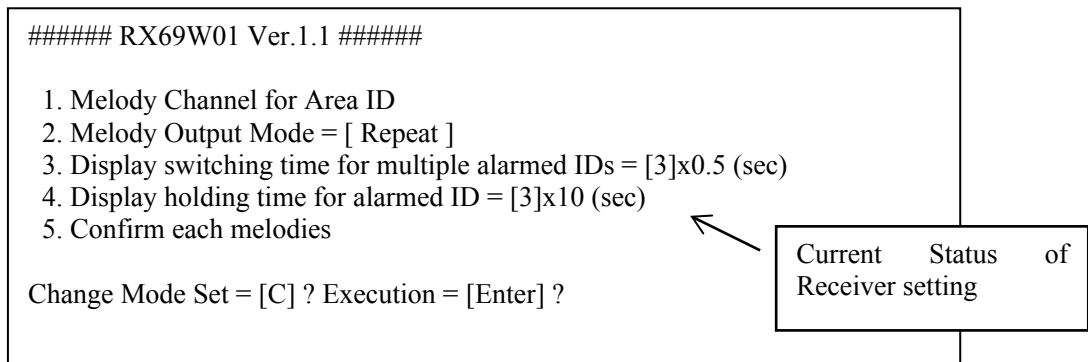

Fig.4-20 Initial screen of Receiver
- When Receiver turned ON, the following screen (Fig.4-20) is displayed.